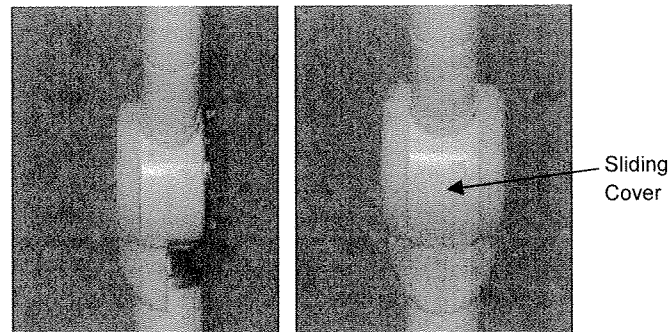

Figure 27 & 28: Left and Right Hand Cover Assembly
6. Gently snap the right hand cover onto the spring arm in reverse to removal instructions described above. When performing this step, ensure that the sliding cover (already on the spring arm) mates with a groove on the inside of the spring arm cover. Refer to Figure 27.